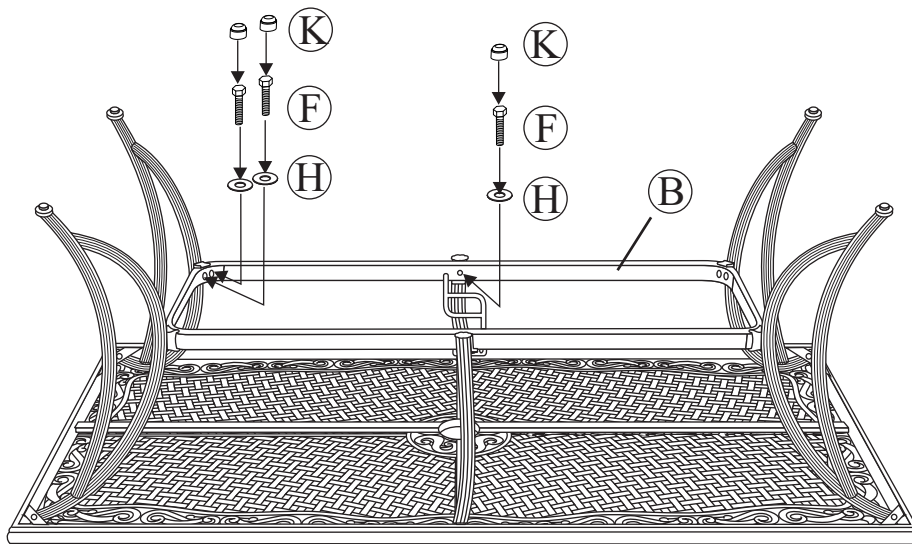

Fig.2
Attach a leg (C) to the leg connector bracket (B) by the bolts (F) and washers (H) shown in the **Fig.2**. **Hand tighten only. Do not tighten completely.** Repeat on the other three legs. Attach topside support (D) to leg connector bracket (B) by using a bolt (F) and a washer (H) as shown in **Fig.2**. **Hand tighten only. Do not tighten completely.** Repeat for the other topside support.